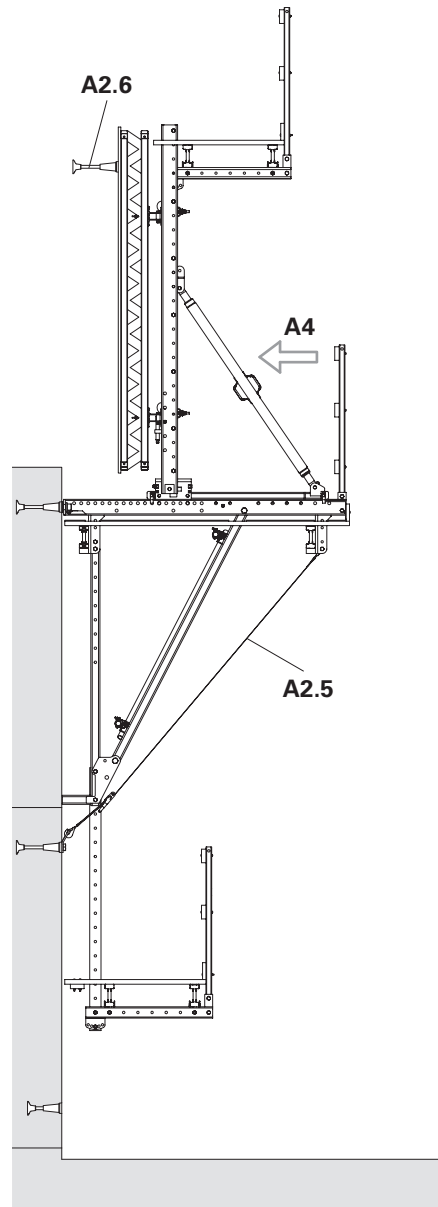

Fig. 12
5. Close and align formwork, see A4. (Fig. 12)